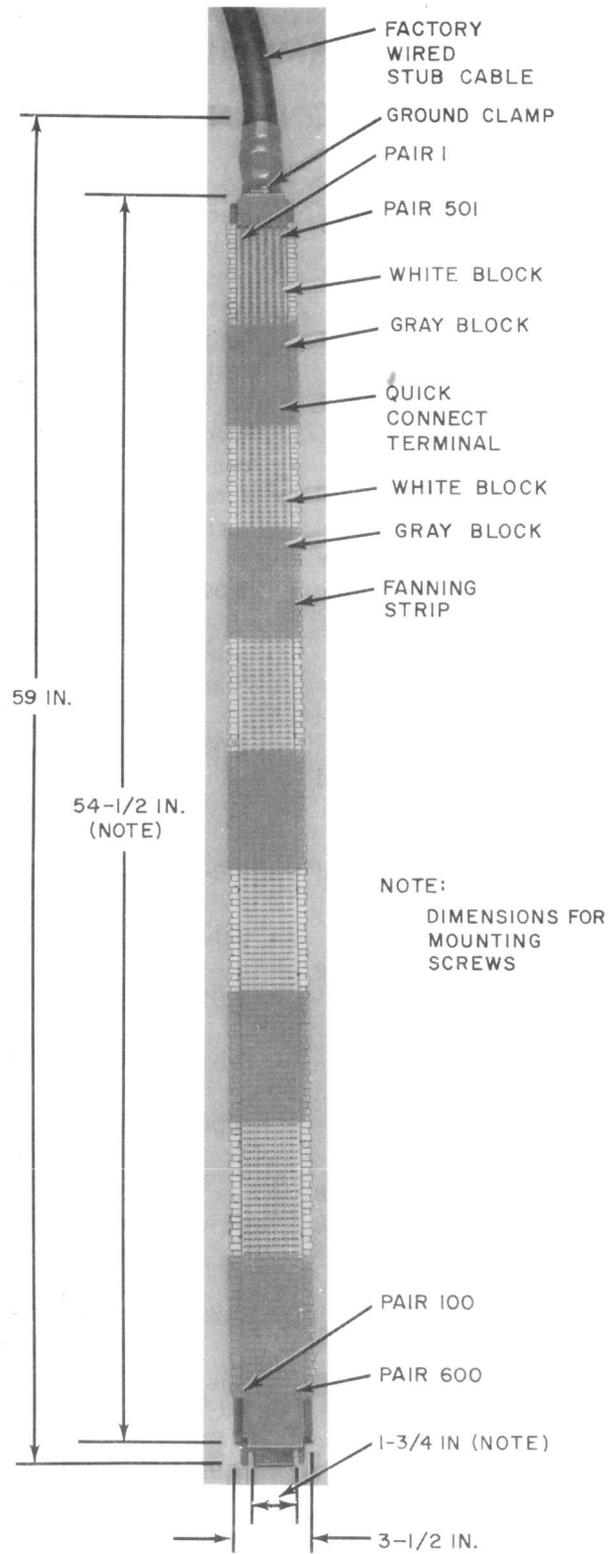

Fig. 1—5A1-600 Terminal Block
2.01 ♦The 5A1-600 and 5A1-900 terminal blocks are shown in Fig. 1 and 2 respectively.
2.05 The quick connect terminals (Fig. 1 and 2) permit connection of the F-type cross-connect wire without the removal of insulation.